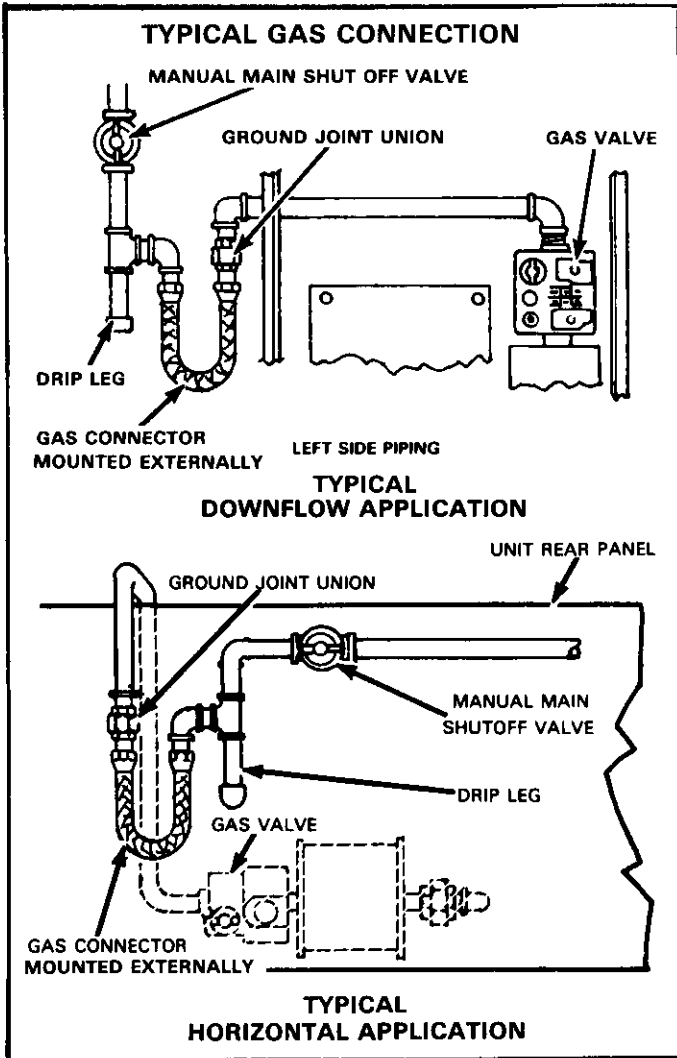

FIGURE 23
- 14 - Gas Supply Piping Centered in Inlet Hole (Figure 23)**